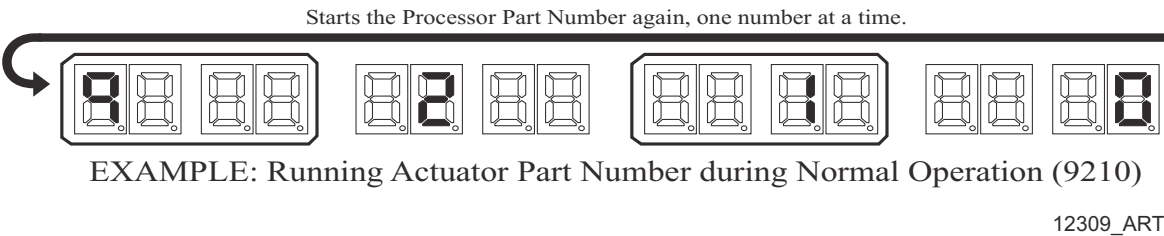

Figure 5-3: Display LED at Normal Operation
- The Display LED will have the Processor Part Number showing in a running pattern during Normal operation (Figure 5-3: Display LED at Normal Operation)